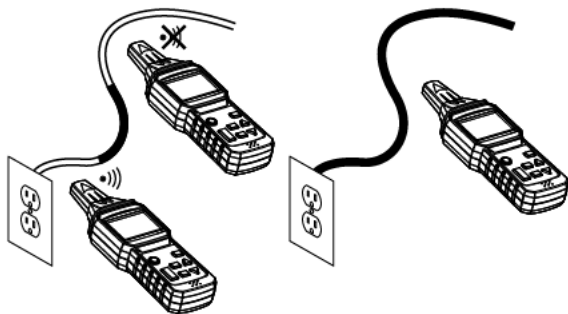

Figure 5 Non-Contact Voltage Detection
7. Refer to Figure 5 in the Application Illustrations section for examples.